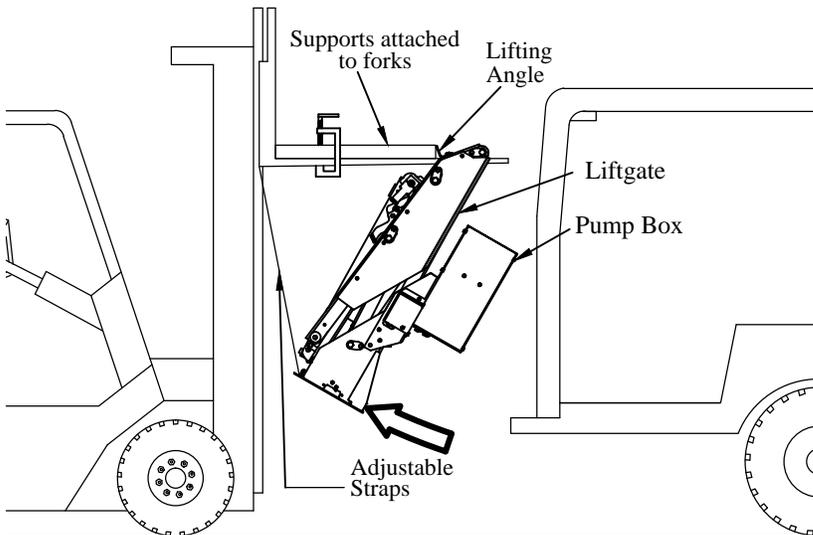

Figure 12: Clamp 24" long supports to the forks. Apply tension to strap to tilt the liftgate.
1. **Clamp** 24" long supports to the fork truck forks to keep the liftgate from sliding (Figure 12).
2. **Lift** the liftgate by the lifting angle with a fork truck (Figure 12).
3. **Attach** adjustable strap to the base of the liftgate and the mast on the fork truck (Figure 12).
4. **Apply** tension to the adjustable strap to tilt the liftgate (Figure 12).
2. **Remove** the plastic cover from the Customer Connection Points (CCP) on the driver seat pedestal (only if using the CCP for power, Figure 12).
5. **Drill** and **Deburr** a 7/8" hole in the floor next to the driver seat in the location shown (Figure 12).
6. **Install** the supplied bus bar on the CCP studs using three (3) supplied M5 nuts and star washers (only if using the CCP for power, Figure 12). The bus bar combines three (3) 60 amp connections into one 180 amp connection point.
12. **Cut** the remaining positive(+) lead long enough to reach from the circuit breaker battery (BAT) terminal to the bus bar connection on the driver seat pedestal (Figure 12) or the positive(+) battery terminal.
13. **Cut** the negative(-) lead to the length required to reach a vehicle ground point under the vehicle (Figure 12).